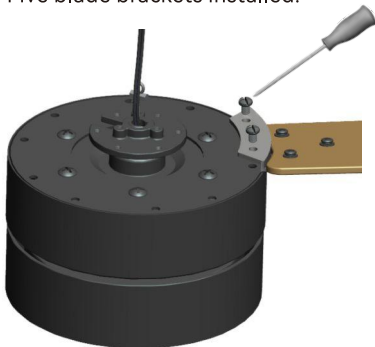

Fig 4.1
4.1 Fix the prepared blade bracket to the motor housing with the blade bracket screws as shown in Fig 4.1.